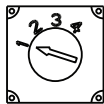

Figure 8: Regulator Voltage Selection Switch
1. Regulator has four selectable set points. Before installing regulator, verify appropriate switch setting for your application and change if necessary. See Figure 8 and Table 1 for fixed voltage set point options when used without battery sensor/harness. See Table 2 for battery chemistry-based charge profiles when used with compatible CEN battery sensor/harness. **Contact battery manufacturer or vehicle OEM for charging set point recommendations for your environment or application if necessary.**